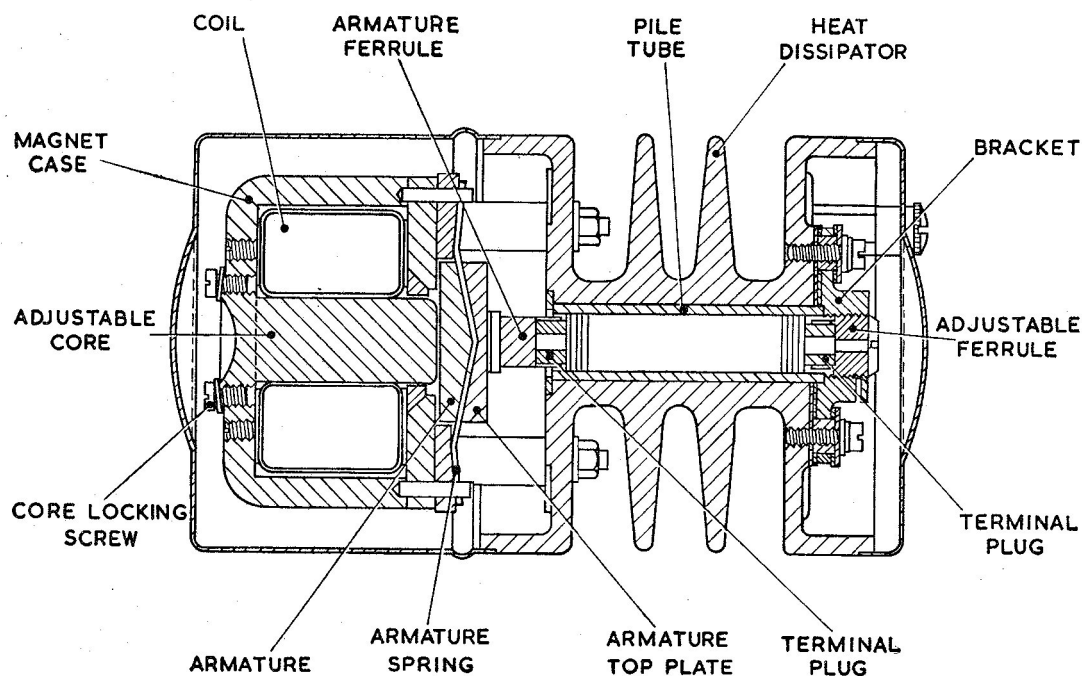
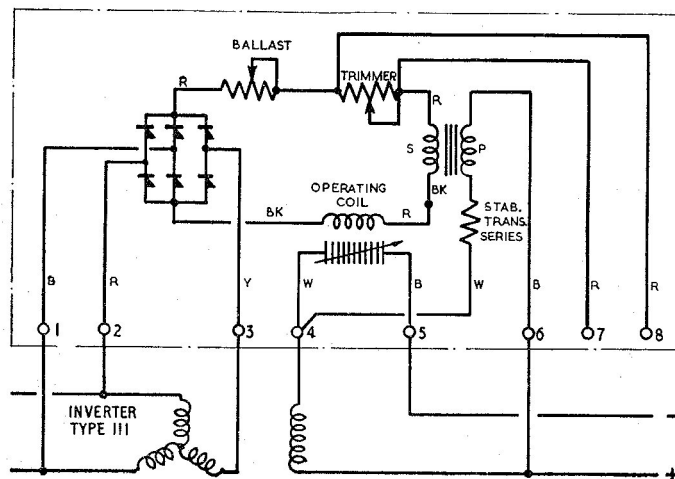

Fig. 1. Voltage regulator, Type 108
Fig. 2. Circuit diagram
| Voltage regulator, Type 108 | ... | ... | ... | Fig. 1 | Circuit diagram | ... | ... | ... | ... | Fig. 2 |
2. This regulator (*fig. 1*) is of the single carbon pile type, and in general construction and principle of operation is similar to the standard design described in A.P.4343, Vol. 1, Sect. 6, Chap. 1. It incorporates the later flap type armature spring, with a bi-metal
during sudden speed or load changes, and is connected as shown in the circuit diagram in fig. 2, with its primary winding connected across the inverter field and its secondary in series with the operating coil. Under stable conditions, no voltage is induced in the secondary winding, but when the inverter speed changes, a voltage will be induced in the secondary winding such as to oppose the compensating effect of the operating coil and so damp any tendency towards oscillation.